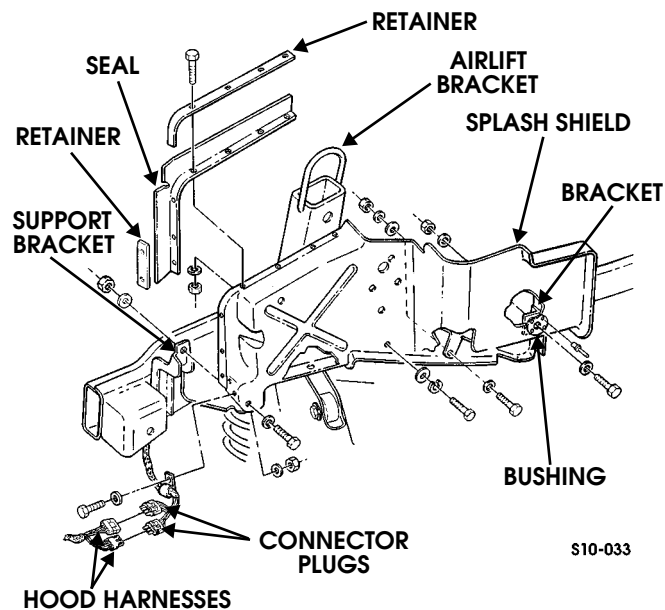

Figure 10-100: Engine (Left) Splash Shield Assembly Replacement
2. Disconnect hood harness connector receptacles from connector plugs (Figure 10-100).
8. Remove locknut, two washers, bolt and splash shield from bracket (Figure 10-100).
1. Remove seven locknuts, washers, screws, seal, and two retainers from splash shield (Figure 10-100).
1. Secure bushing to splash shield with four rivets (Figure 10-100).
1. Secure splash shield to bracket with, bolt, washers, and locknut (Figure 10-100).
3. Secure two connector plugs to splash shield with clamp, screw, two washers, and locknut (Figure 10-100).